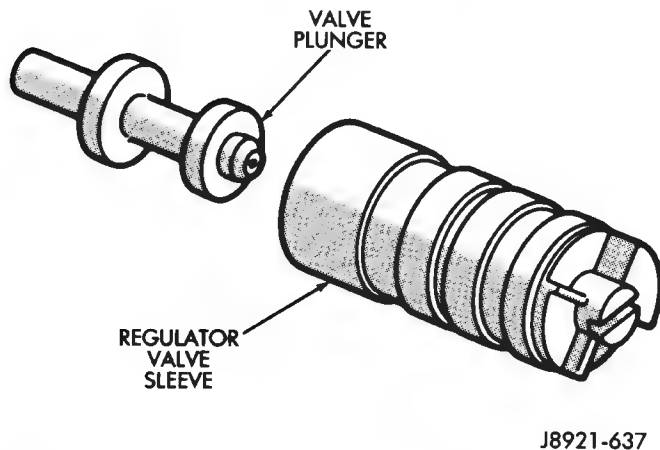

Fig. 7 Removing/Installing Regulator Valve Plunger
- (8) Remove regulator valve plunger from sleeve (Fig. 7).
(6) Install primary regulator valve plunger in valve sleeve (Fig. 7).
(7) Install valve spring and regulator valve sleeve and plunger.